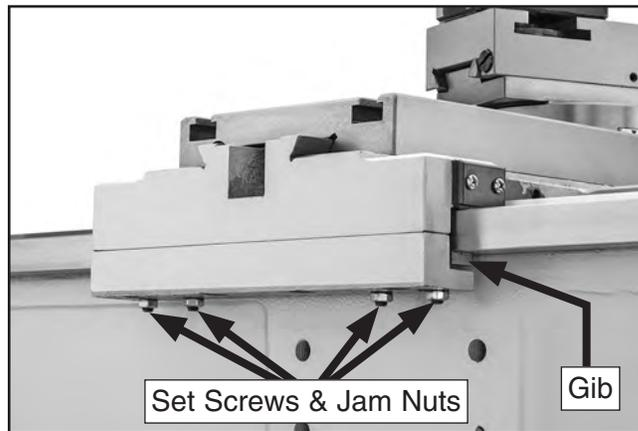

Figure 110. Saddle gib components.
The saddle gib is located on the bottom of the back edge of the cross slide (see **Figure 110**). This gib is designed differently than the cross or compound slide gibs. Instead of being a wedge-shaped plate, it is a flat bar. The gib pressure is applied by four set screws. Jam nuts secure these set screws in place, so they will not loosen during operation.
5. Loosen the hex nuts on four set screws shown in **Figure 110**, and adjust set screws same amount as follows: